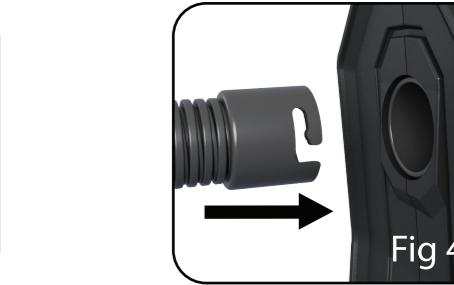

Fig 4
1. Press the power on/off button (10) to switch the unit on. If the unit was last used in high-pressure mode (tire inflation mode) press the MODE high/low pressure selection button (4) to switch to low pressure mode. The display will show a flowing arrow below the remaining battery capacity display. Remove the low pressure hose from its mount and push the end with the slot into the deflator port (fig 4).
2. Press the inflation start/stop button (1) to start deflating. Once deflation is complete remove and remount the low-pressure hose back on the inflator. The inflator will shut off automatically when it runs continuously for 10 minutes. In that case, rest the inflator for 15 minutes to cool down before using again.